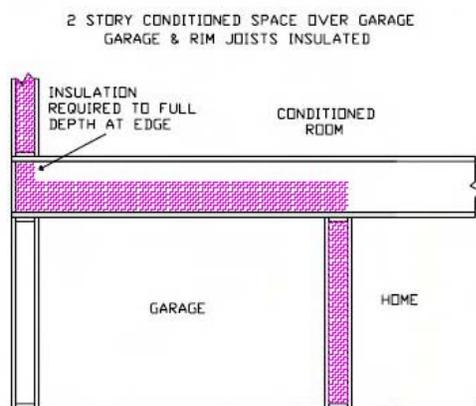

FIGURE 3
- When the insulation is installed on top of the ceiling above the garage, the exterior rim joists shall be insulated (see Figure 3 on the next page) with an R-value equal to or greater than the wall insulation R-value listed on the CF-1R Form .